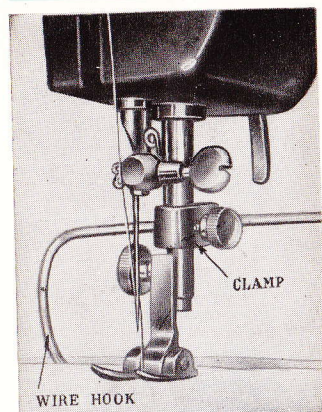

Fig. 26
2. Raise presser foot and turn balance wheel toward you to bring needle to its highest position. Remove regular presser foot from presser bar by loosening thumb screw. Instead attach special buttonhole foot shown in Fig. 26. Tighten thumb screw.
The quilting attachment (Fig. 26) will enable you to sew equi-distant lines on padded fabric without the necessity of marking them in advance. To attach the quilter to the presser bar of the machine, first pull long wire hook out of horse-shoe shaped clamp. Stride the clamp on the presser bar from behind and above ordinary presser foot, and push the wire hook into previous place.